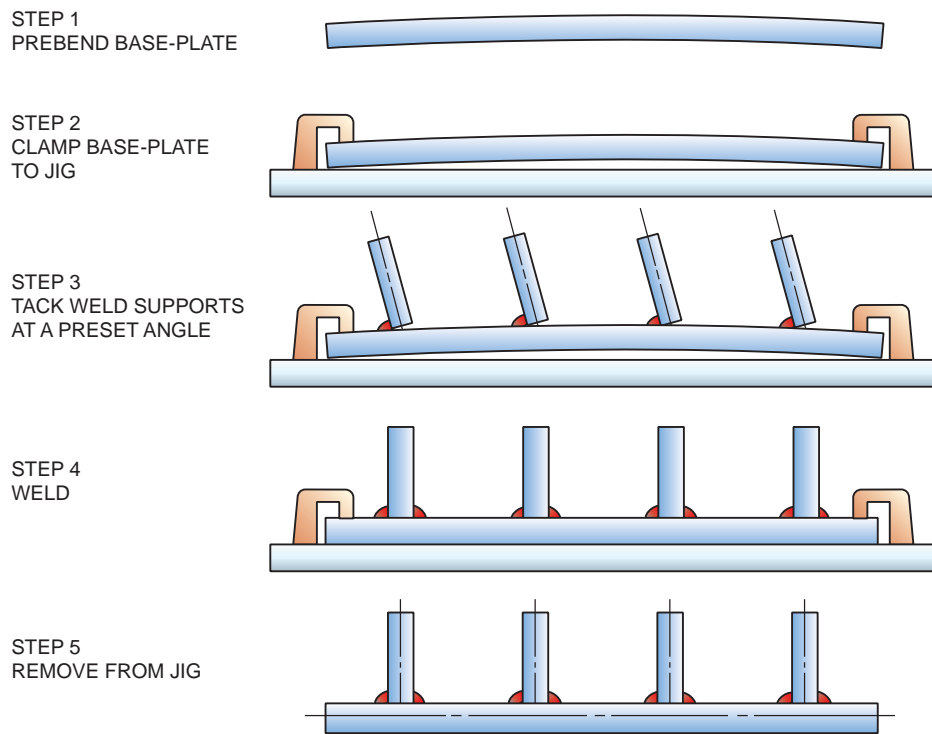

FIGURE 6-14 Jigs and fixtures can be used to minimize weld distortion. © Cengage Learning 2012
- Offset the parts before welding—In Figure 6-14, the plates are slightly offset by a slight angle. Without this offset, the weld would bend past the 90° desired angle as it cooled. ♦